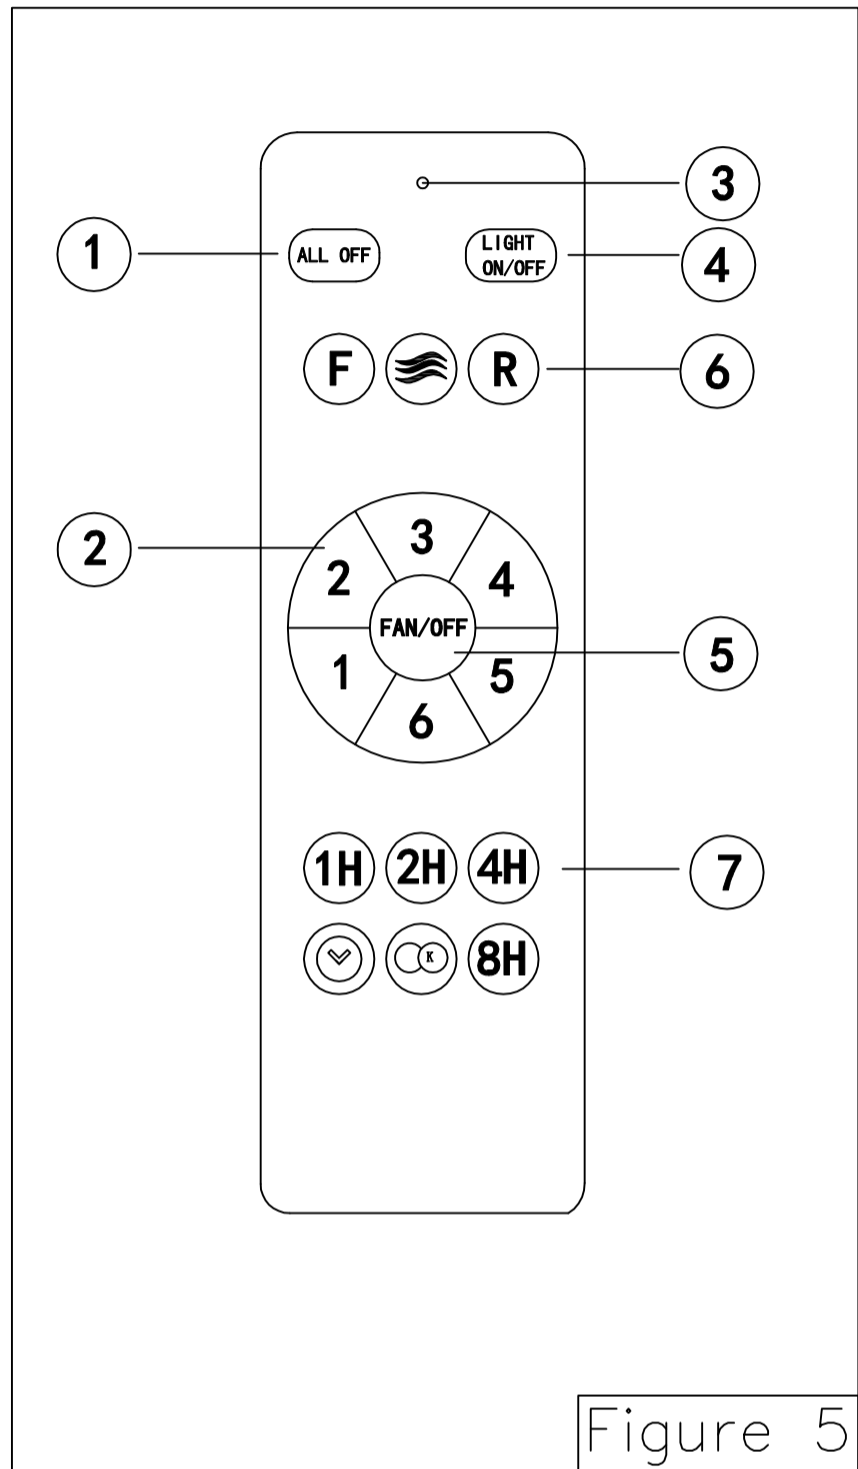

Figure 5
- Use bandage to extend into the wave filter mounting hole and the screw hole of the hanger bracket, and tighten bandage (for subsequent installation of the ceiling Canopy) . (Figure 5)
□ Remote functions: (Figure 5)